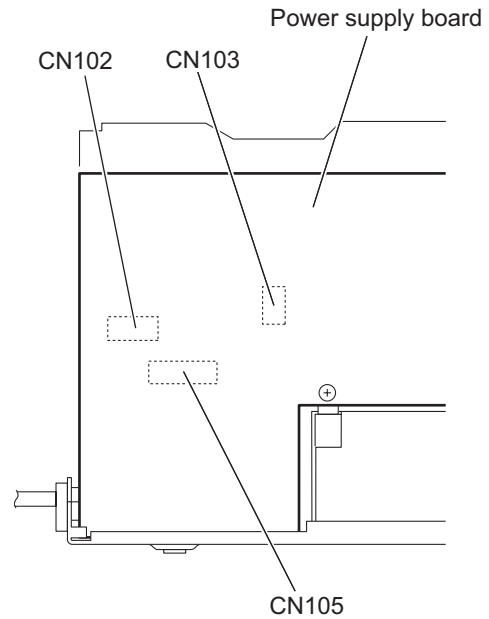

Fig.22
3.1.13 Removing the power transformer (See Figs.22 and 23)
(1) From the forward side of the power supply board, disconnect the wires from the connectors (CN102, CN103, CN105). (See Fig.22.)